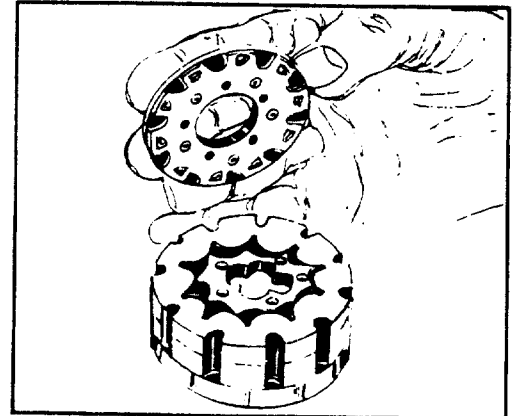
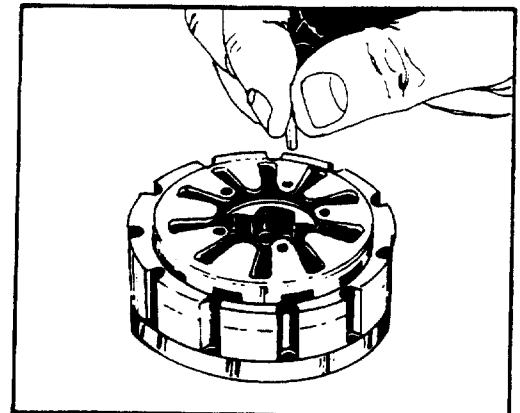

FIGURE 57.
FIGURE 58.
13. Place the commutator (22) on top of the rotor (24). Be sure the correct surface, shown in figure 57, is towards the rotor. Align the five holes and press the five alignment pins (11) in place. See figure 58.